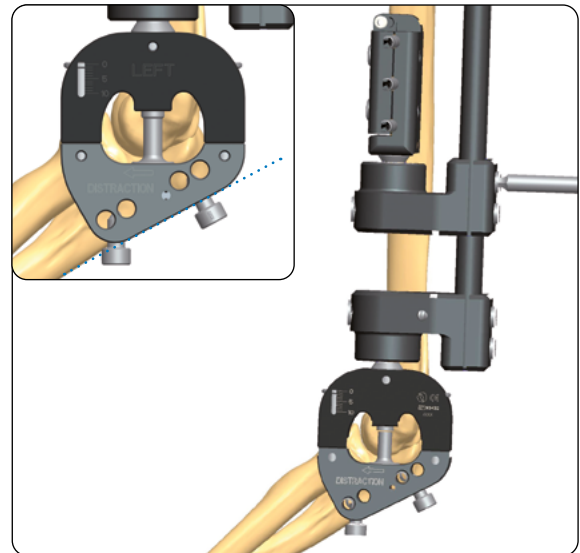

Fig. 7
6) With the Ulnar Micrometric Distraction Mechanism in Close position, adjust the distance of the Humeral Distractor Clamp, making sure that the Ulnar Distractor Clamp is aligned with the Ulna (**Fig. 7**).